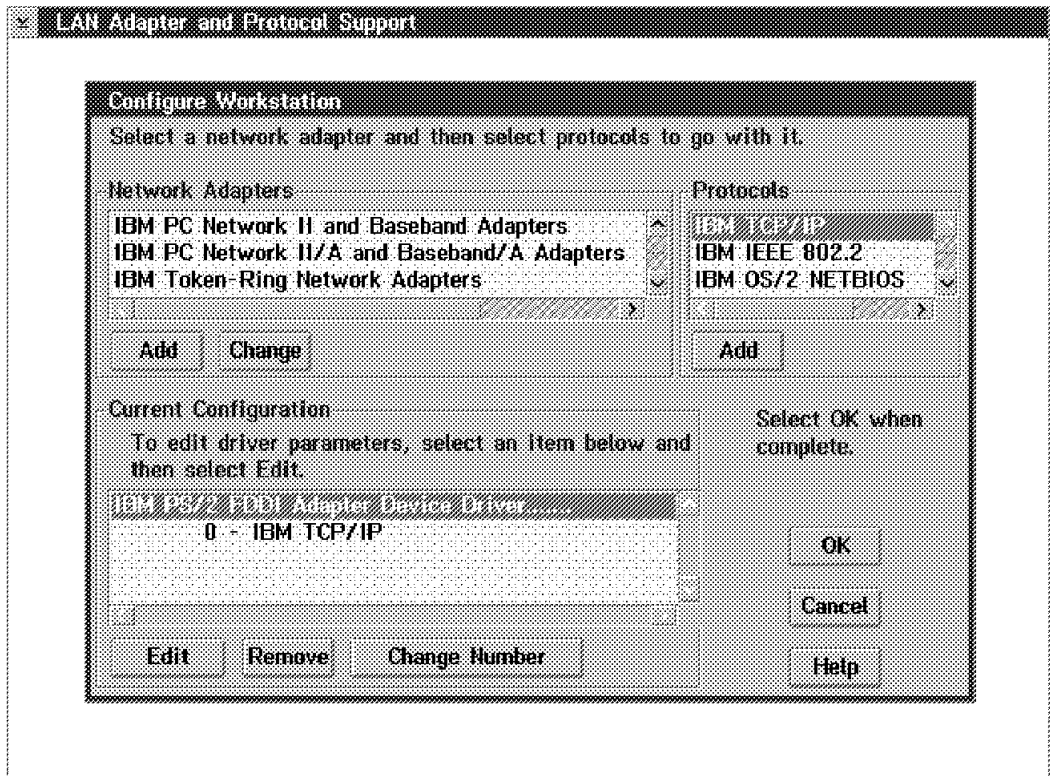

Figure 128. LAPS Configure Workstation Window for Workstation LAN Adapter (FDDI)
Step 1. At the Configure Workstation window, make sure that the Current Configuration field includes the proper FDDI adapter name for the FDDI adapter type you have installed in your workstation. Use IBM PS/2 FDDI Adapter Device Driver if you have an IBM FDDI adapter installed. Ensure that IBM TCP/IP is included under the name for the FDDI adapter as shown in Figure 128.